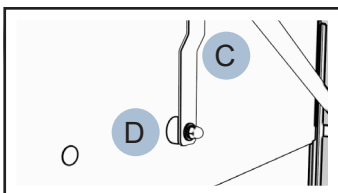

Fig. 6 - Door Linkage Arm (C) Removal & White Roller (D)
4. Disconnect the door linkage arm (C) from the wall-side door and discard. Re-install the white roller (D) and hardware (see Fig. 6).